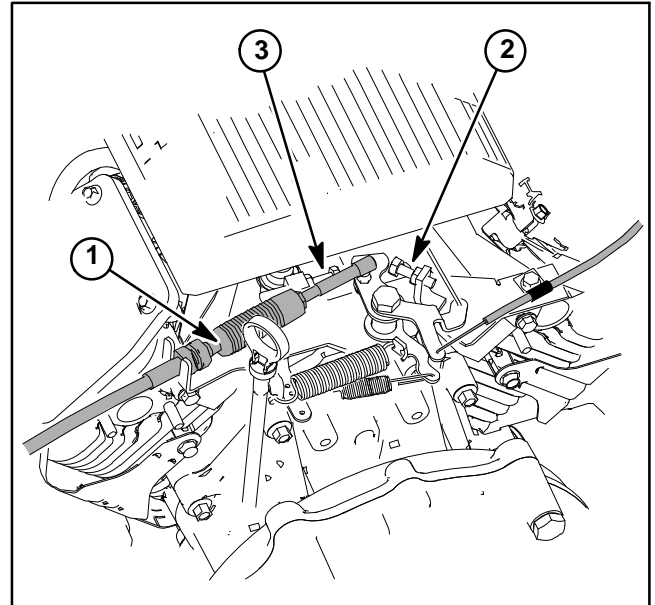

Figure 2
5. If high idle speed is incorrect, adjust high speed screw on control bracket (Fig. 2).
8. If low idle speed is incorrect, adjust low speed screw (Fig. 2).